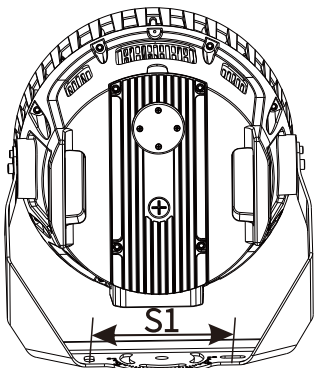

Figure 5
1. Mark the hole distance S1 shown in the product to be installed (Figure 5);